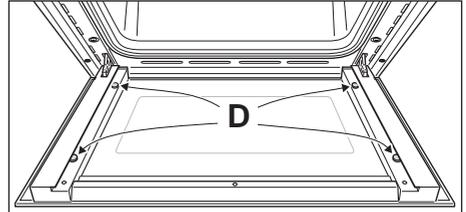

Fig. 39a
IMPORTANT: It is advisable, while removing the glass, to keep pressed in position the four rubber pads "D" (fig. 39a), by a finger, to avoid breakage or slippage of the rubber pads themselves.
- Check that the four rubber pads are in place ("D" in fig. 39a).